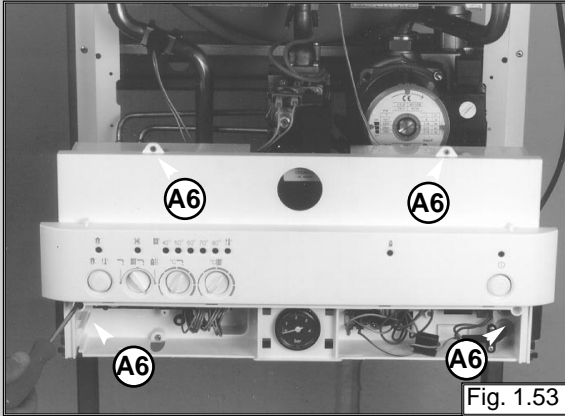

Fig. 1.53
5. Remove the mounting screws "A6" (see fig. 1.53);